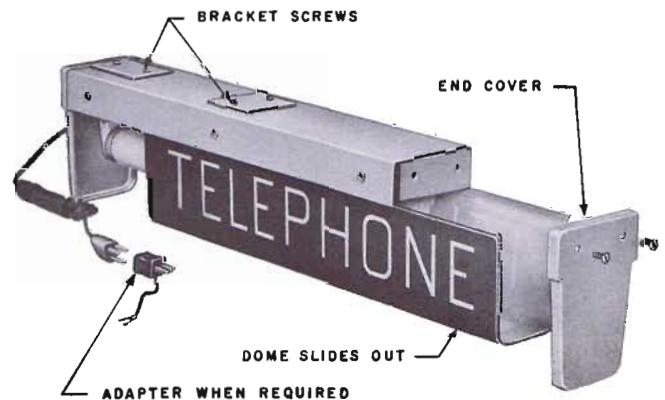

Fig. 1 — KS-16422 Sign Assembly
3.01 The KS-16422 sign assembly is shown in Fig. 1.
1. Remove screws from end cover (Fig. 1).